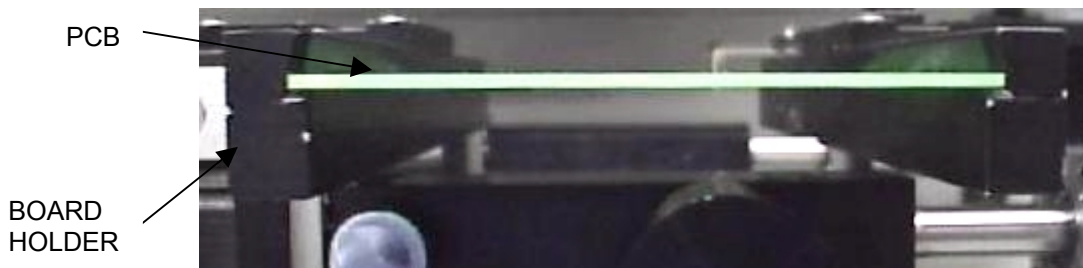

Figure 4: Board Holder and PCB
1. Insert PCB into Board Holder. See Figure 4.
2. Verify that the height (Z-axis) adjusting screw (#4, Fig. 6) is positioned in the center of the square hole as shown in Figure 4. This position is the reference point for all alignment procedures.